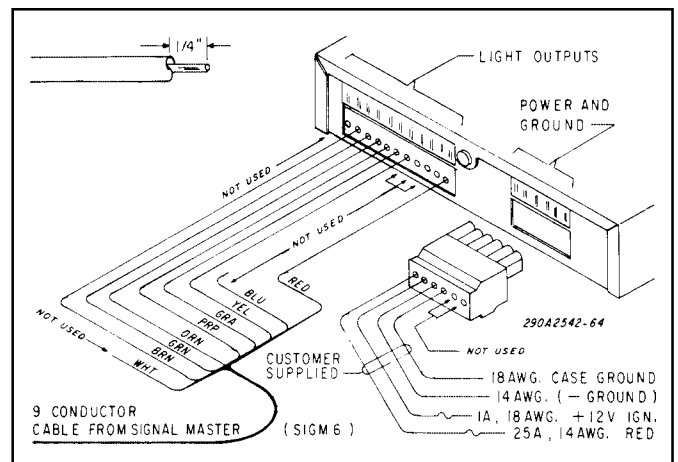

Figure 2.
The control unit is supplied with a six-position connector and a eleven-position terminal block to perform the electrical installation. User-supplied, 14-gauge red and black wires are required for the (+) BAT and (-) GND connections on the six-position connector. User-supplied, 18-gauge red and green wires are required for the (+) BAT/IGN and CASE GROUND connections on the six-position connector. Using figure 2 as a guide, complete this portion of the installation as follows:
g. Ensure that positions 5 and 6 of the six-position connector are not used (see figure 2).
c. Connect six 22-gauge wires and 16-gauge red wire to the terminal block as shown in figure 2. Positions 1, 8, 9, and 10 are not used. Cut the unused white and blue wires at the cable's insulating sheath.